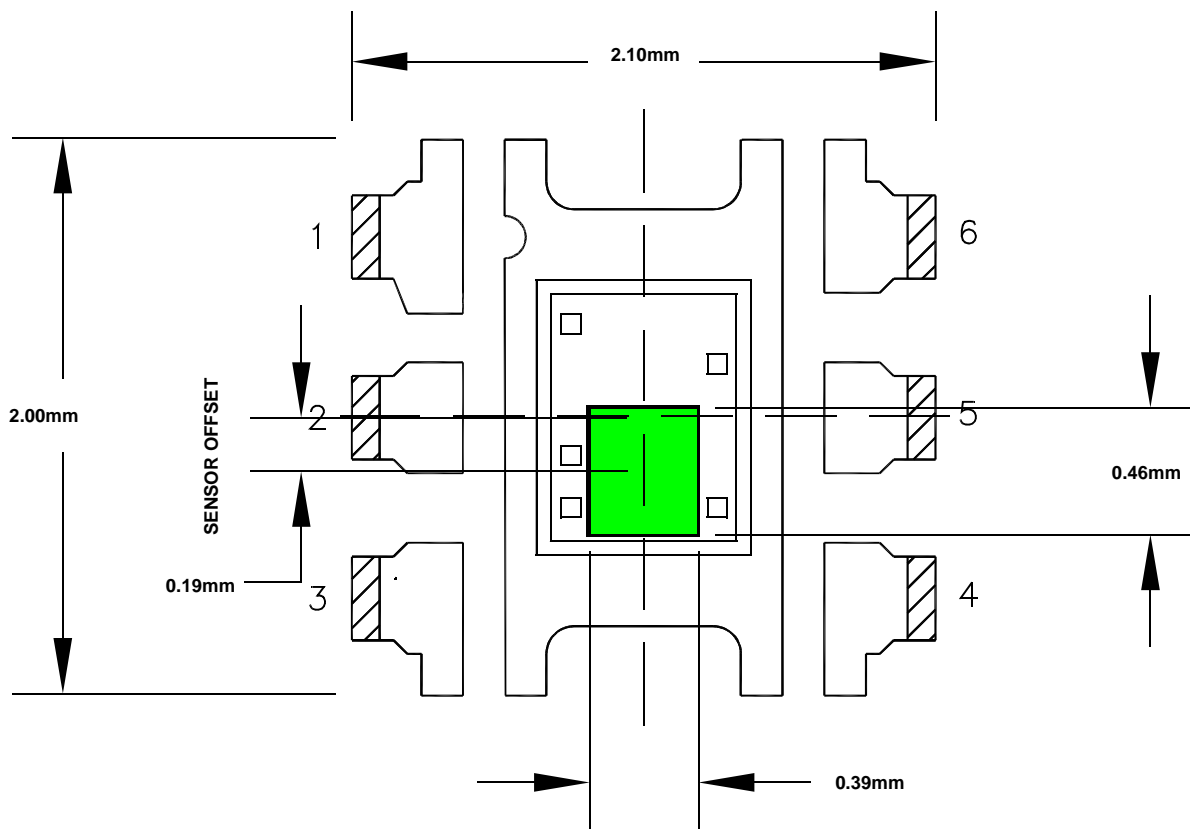

FIGURE 18. 6 LD ODFN SENSOR LOCATION OUTLINE
The green area in Figure 18 shows the optical sensor location outline of ISL29102. Along the pin-out direction, the center line (CL) of the sensor coincides with that of the packaging. The sensor width in this direction is 0.39mm. Perpendicular to the pin-out direction, the CL of the sensor has an 0.19mm offset from the CL of packaging away from pin-1. The sensor width in this direction is 0.46mm.